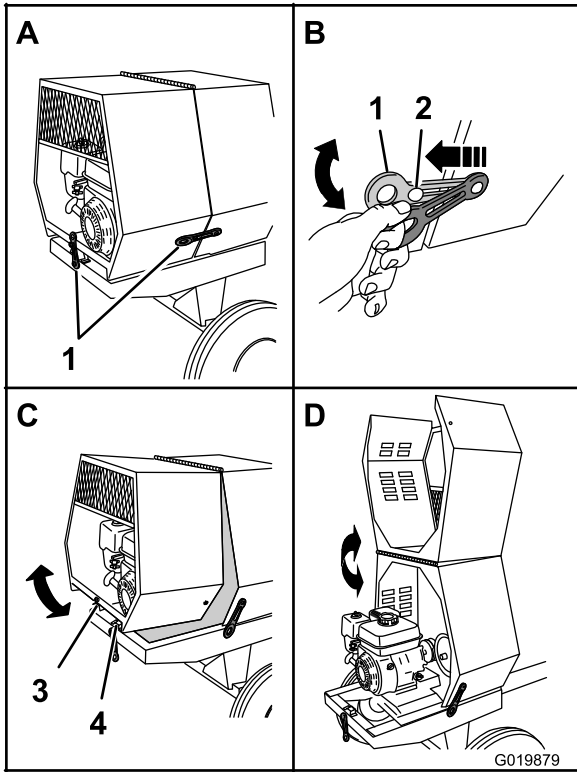

Figure 25
1. At the side of the machine where the front cowl and rear cowl meet, grasp the ring of the latch and pull it off from the latch anchor on the rear cowl (Figure 25).
3. Rotate the rear cowl up and forward until it is fully positioned on top of the front cowl (Figure 25).
1. Rotate the rear cowl rearward and down until the receiver at the bottom center of the cowl is flush on the frame of the machine (Figure 25).
3. Repeat step 2 at the opposite side of the machine (Figure 25).